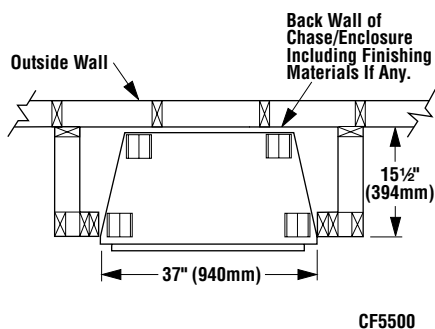
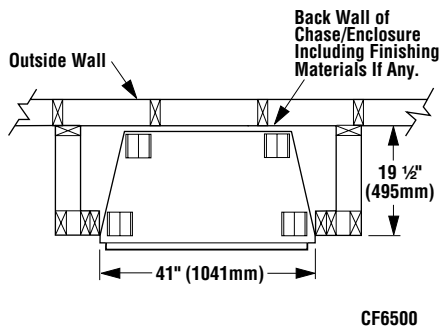

Figure 4
Figure 7
Step 1. Frame CF5500 appliance enclosures as illustrated in *Figures 4, 5 and 6*. Frame CF6500 appliance enclosures as illustrated in *Figures 7, 8 and 9*.
Note: Framing dimensions in Figures 4 - 9 are calculated for a nailing flange depth of $\frac{1}{2}$ " (13 mm).